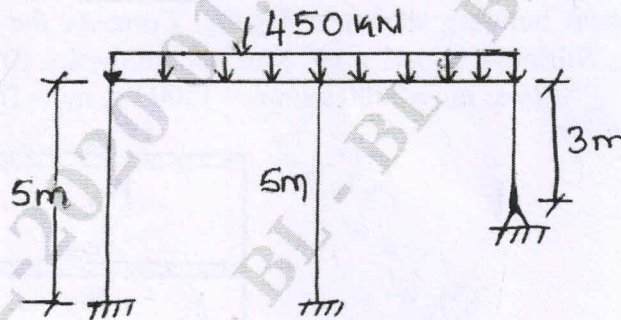

Fig.Q2(a)
- 2 a. Compute the natural frequency in the side sway for the frame shown in Fig.Q2(a). If the initial velocity is 20 mm/sec and initial displacement is 20 mm. Find the displacement at  $t = 2$  secs. Damping 10% of critical. Cross section dimension of column = 230 × 300 mm. Grade of concrete = M20.